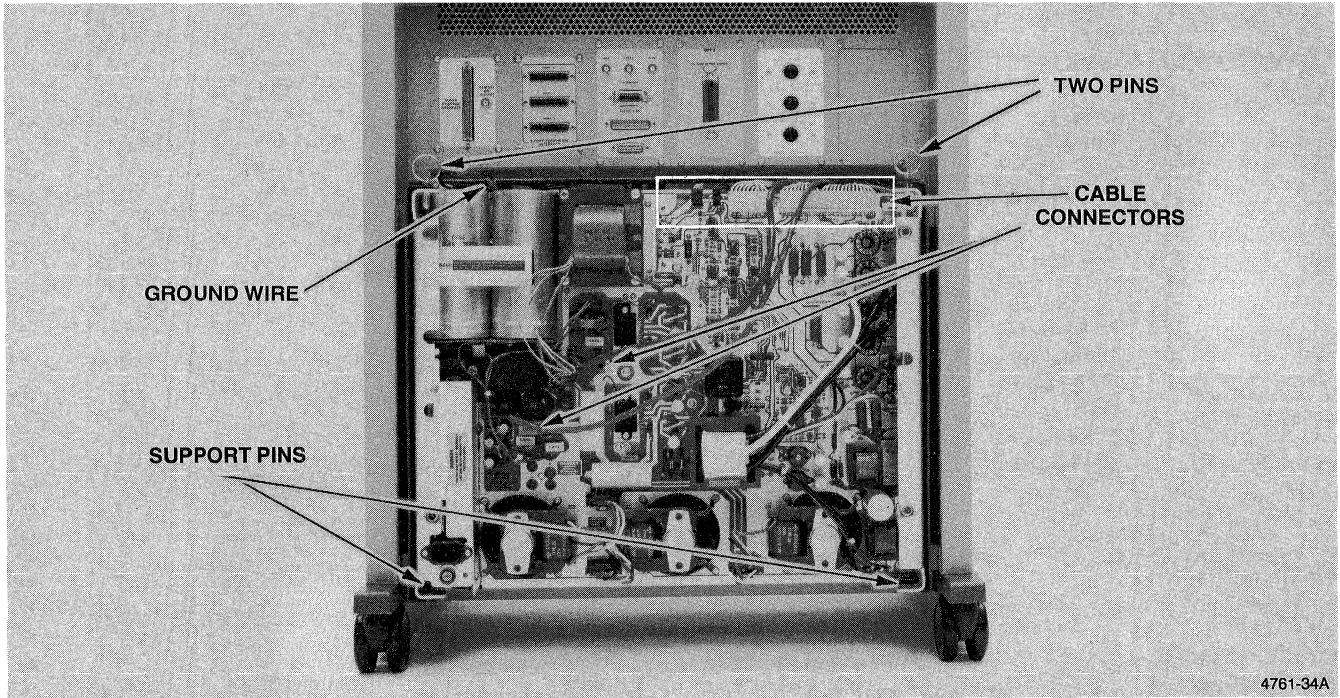

Figure 9. Power Supply Removal.
4. Pull the two power supply holding pins up to remove. Noting the connector number and polarity for replacement, remove the power supply cabling. Lift the power supply to disengage it from the support pins and pull it toward you to remove (Figure 9).